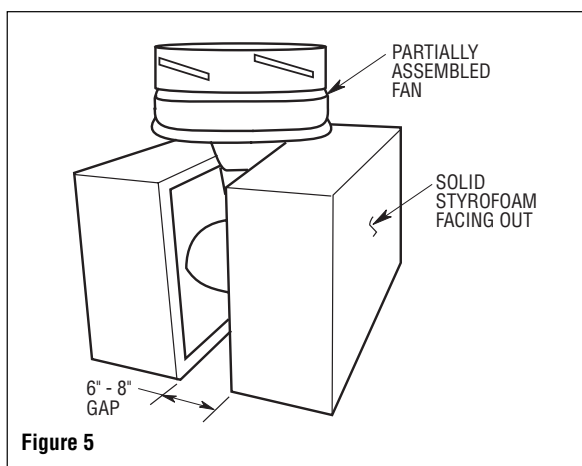

Figure 5
- Turn fan motor assembly upside down in preparation for mounting fan blades. Position the top and bottom halves of the styrofoam packaging on end, with solid styrofoam facing outward. Set side-by-side on the floor with a six to eight-inch gap between the halves (Figure 5). Carefully place the partially assembled ceiling fan on the styrofoam halves, with the hanger ball/downrod assembly positioned in the gap and the fan motor assembly resting on top of the styrofoam ends.